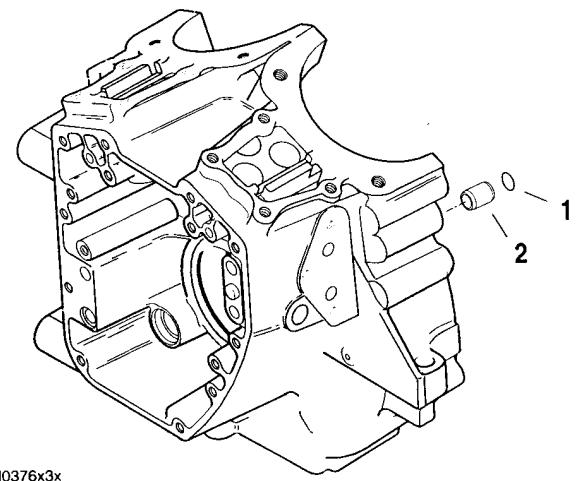

Figure 3-60. Right Crankcase Forward Dowel Pin
5. See Figure 3-60. Remove O-rings (1) from two dowel pins (2) in split line face of right case half. Discard O-rings.